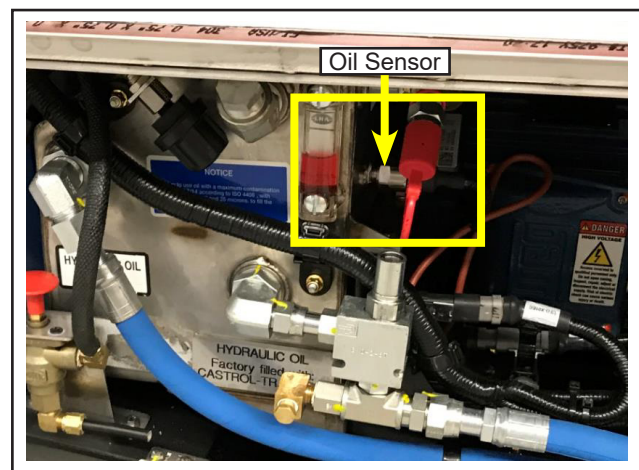

Figure 6 - Hydraulic Tank Location
- 1.8. Disconnect the hydraulic oil level sensor electrical connector (see figure 6).